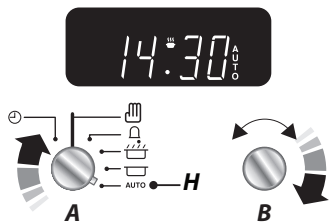

Fig. 2.12
6. When the program starts the Multifunction Oven, the 'Cooking' symbol will appear on the display. Once the specified time has elapsed it will emit an alarm and the Multifunction Oven will stop working. The 'Cooking' symbol on the display will disappear and the word **'AUTO'** will flash (**Fig. 2.12**).